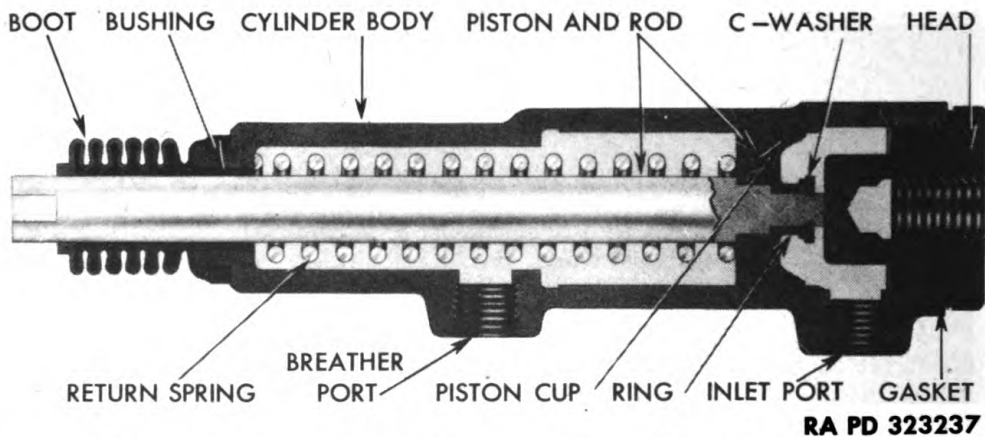

Figure 242 — Cross-section of Electric Brake Controller Power Cylinder
- (1) Clean all parts with dry-cleaning solvent.
- (2) Inspect parts, and replace those which show wear or damage.
- (3) Inspect bushing in cylinder body. Do not remove bushing unless it shows excessive wear. Use an arbor press to remove a worn bushing and press in a new one. It may be necessary to ream out bushing slightly after it is installed. Correct fit is obtained when bushing has a close sliding fit over full length of piston rod stroke. Finished inside diameter of bushing is 0.563 to 0.565 inch.
e. Assemble (fig. 242).
- (1) **INSTALL PISTON CUP.** Place ring over hub of piston cup with chamfered side toward the cup. Slide piston cup over end of rod with lip facing away from piston. Install C-washer by bending it together with pliers.
- (2) **INSTALL PISTON AND ROD ASSEMBLY.** Dip assembly in clean engine oil, and allow excess oil to drain off. Coat return spring with preservative lubricating oil. Place spring in cylinder bore, and insert piston with rod. Install cylinder head and gasket in body.
- (3) **INSTALL RUBBER BOOT.** Slip boot over piston rod and end of body, making sure beaded end seats in groove in body.